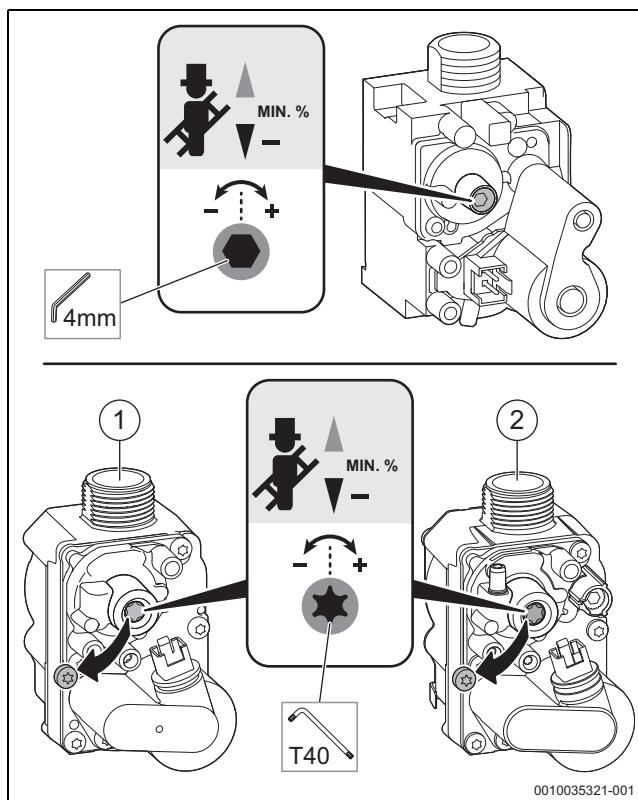

Fig. 84 Setting the CO2 content (above: SIT valve, below: Honeywell valves)
- Remove the seal from the adjusting screw of the gas valve (only gas valve is shown in the below Figure 84) and set the CO2 content for minimum rated output.